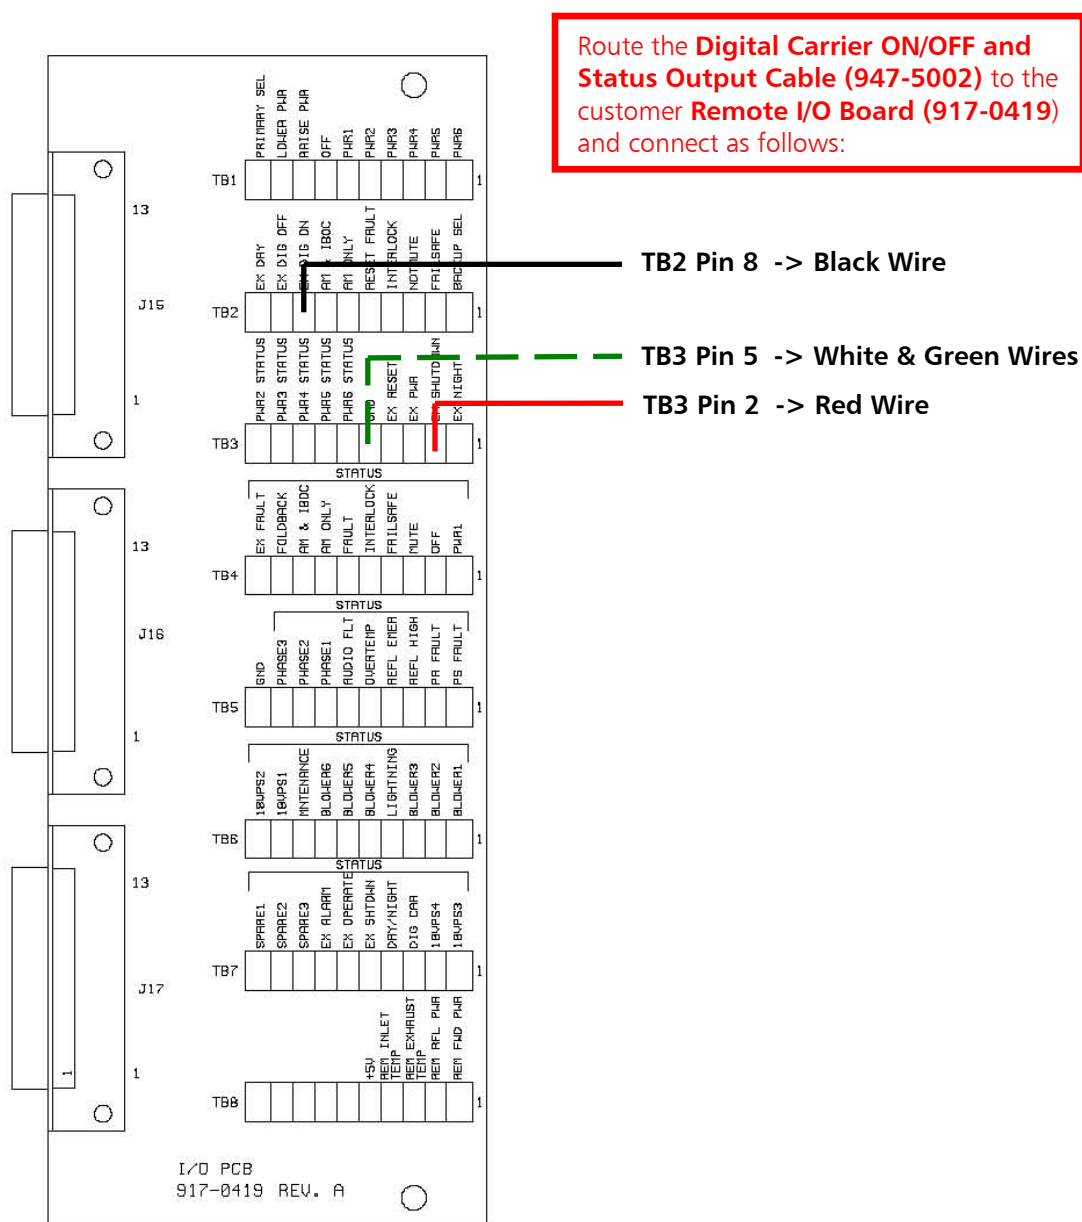

Figure 41 – Digital Carrier ON/OFF and Status Output Cable (947-5002) Connections
Step 6 – Connect the **Digital Carrier ON/OFF and Status Output Cable** (947-5002 identified in Section 7.1 as Item 11) to the ASI 10 and route down through the top right front corner of the 4MX Cabinet to the Remote I/O Connection Cavity of the Transmitter. Route and connect the Cable to the 4MX as shown in **Figure 41** below.